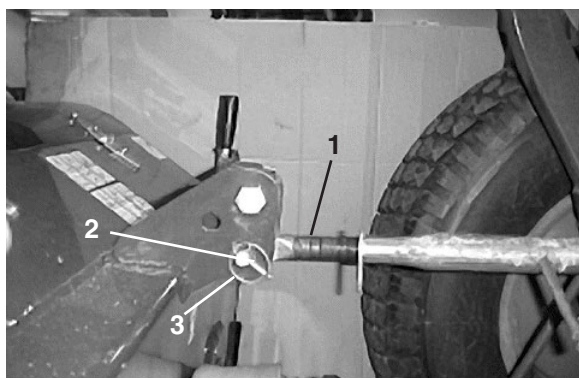

Figure 3
1. Connect the upper link (Fig. 3) to the bracket and secure with a link pin and lynch pin.